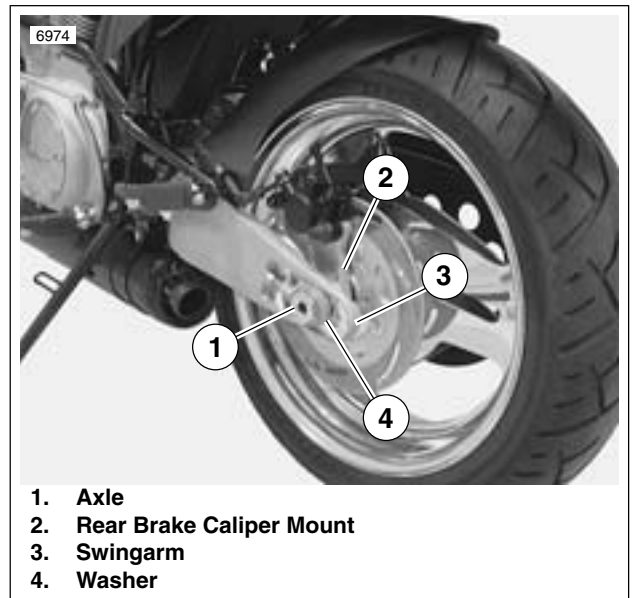

Figure 2-8. Axle, Left Side
- b. See Figure 2-8. Insert axle (1) through washer (4) so that rounded side of washer will face swingarm (3). Continue through left side of swingarm, rear brake caliper mount (2) and wheel assembly.